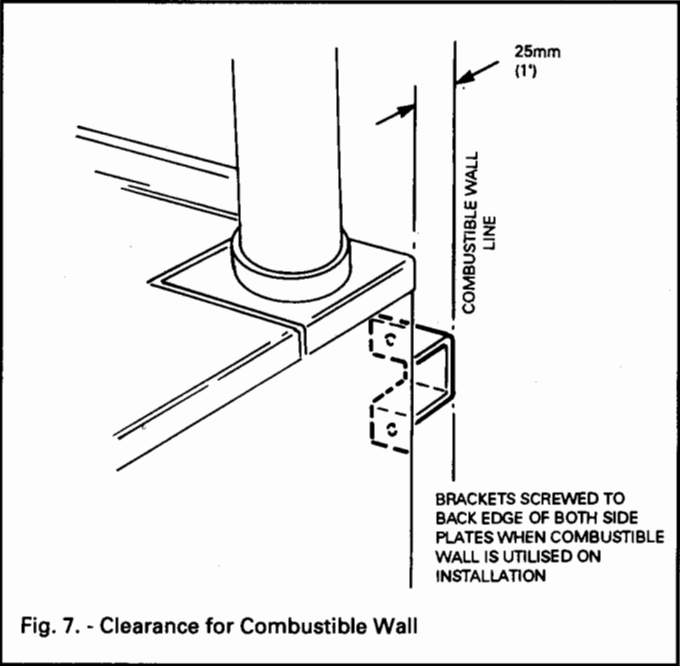

Fig. 7. - Clearance for Combustible Wall
2. Appliance rear distance bracket - For use when the appliance is installed near a rear wall of combustible material - See Fig. 7.
NOTE: IF THE REAR WALL IS OF COMBUSTIBLE MATERIAL, THERE MUST BE AN AIR GAP OF 25mm (1in) BETWEEN THE WALL AND REAR OF APPLIANCE. FIT REAR DISTANCE BRACKET AS SHOWN IN FIG. 7.
Appliance rear distance bracket:- **If the rear wall is of combustible material, there must be an air gap of 25mm (1in) between the wall and rear of appliance. Fit rear distance bracket as shown in fig.7.**